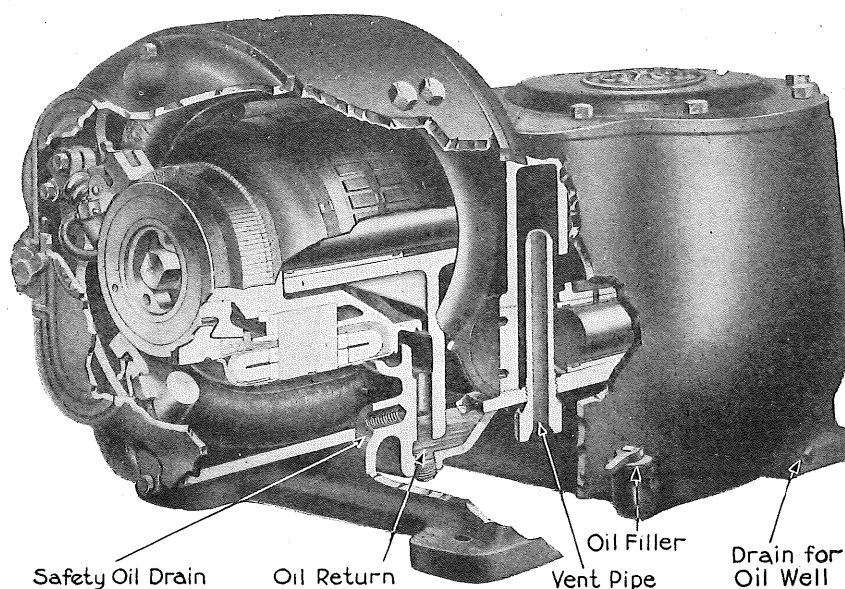
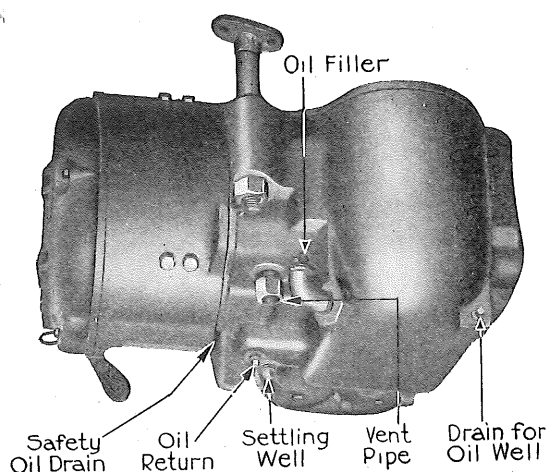
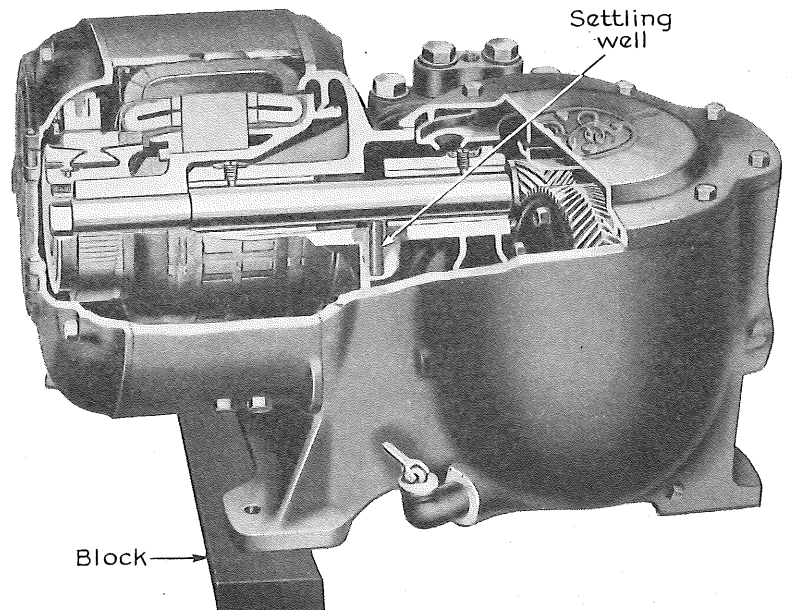

Fig. 5. Air Compressor Showing Oil Return from Motor to Compressor and Crank Chamber Vent Pipe
Fig. 6. Under Side of Air Compressor
Fig. 9. Air Compressor Motor Construction
All bearings are lubricated from the oil well in the bottom of the crank chamber. The system of the distribution and the return of the oil is shown in Fig. 5 and 9.
Fig. 6 shows the underside of the air compressor. An accumulation of oil around or near the safety drain is an indication that the vent pipe requires immediate attention. In removing a vent pipe for cleaning, use a socket wrench in preference to a monkey wrench or an open-end wrench. When the vent pipe is put back in place, see that the pipe threads are well shel-lacked.
passage and the other members concerned with the return of the oil from the armature bearing to the crank chamber and the venting of the crank chamber are shown in Fig. 5.
The $\frac{3}{4}$ -in. pipe plug at the bottom of the settling well should be removed and any sediment which may have collected drawn off once a year, or oftener. The upper end of this settling well is shown in Fig. 9.
1. Place a block under the motor end of the compressor. This will cause the oil in the pocket between the armature bearings to drain back to the crank chamber instead of flowing into the motor after the armature is removed. See Fig. 9.
14. The armature bearing linings can be removed by turning out their screw dowels (Fig. 9) and pulling the linings out with a draw bolt.
pipe plugs which should be removed. The drain for the oil well and the oil-return plug are shown in Fig. 5 and 6. The settling well plug is shown in Fig. 6. The top of the settling well is shown in Fig. 9.